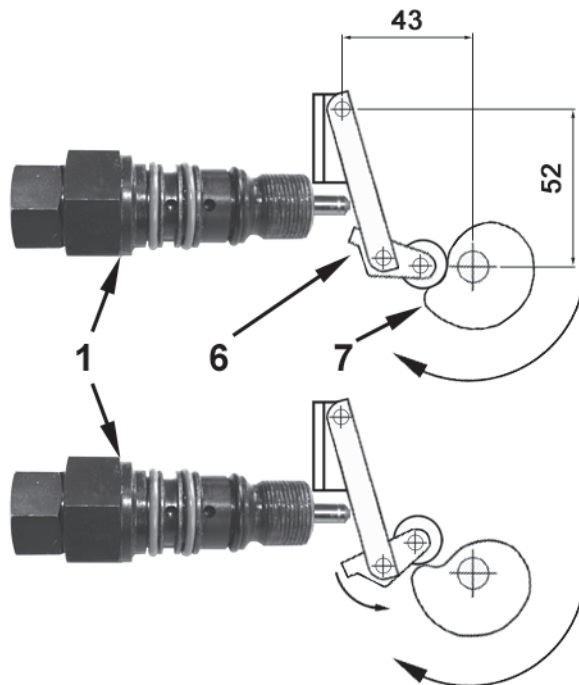

Fig. 4 Idle run of the switch joint on the venting element
- The gear motor shaft is connected to the final stage gear drive. The final gear has incorporated eccentric and cam to drive the pumping elements and to control the internal vent valve (Fig. 4).
- Vent valve (1) is normally closed and stays closed during lubrication cycle, preventing lubricant flow back to the reservoir (see Fig. 4).